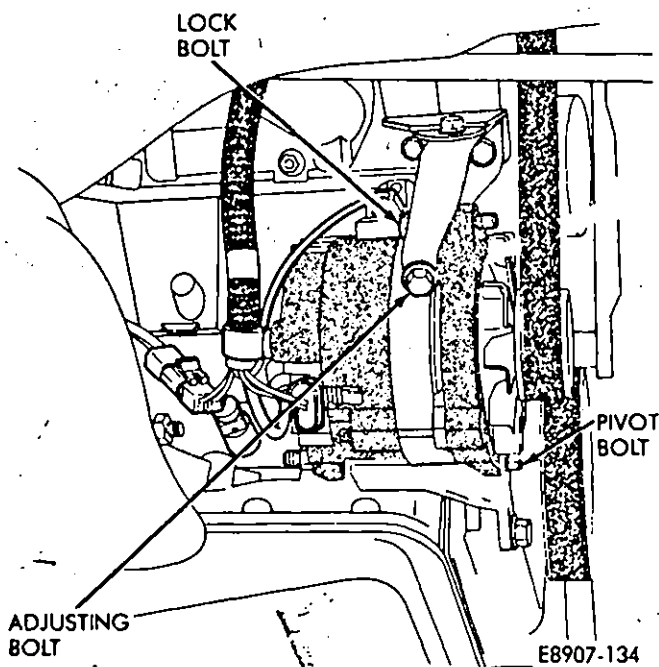
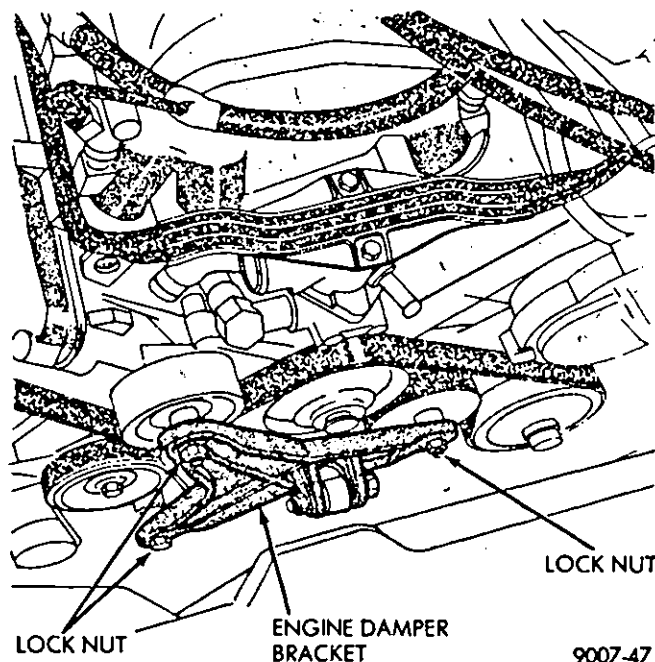
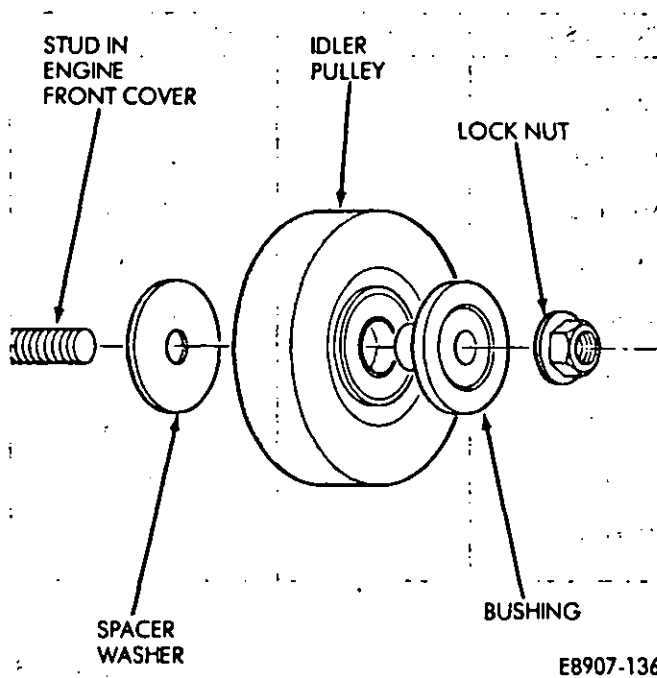

Fig. 4—Alternator Pivot Bolt, Lockbolt and Adjusting Bolt—3.0L Engine
Fig. 5—Engine Damper Mounting Bracket—3.0L Engine
Fig. 6—Idler Pulley Assembly—3.0L Engine
- (3) Remove splash shield below alternator.
- (4) Loosen alternator pivot bolt (Fig. 4).
- (5) Loosen locking bolt (Fig. 4).
- (6) Loosen adjusting bolt (Fig. 4) until the belt can be removed from the alternator pulley.
- (7) Lower the vehicle.
- (8) Remove locknuts securing engine damper mounting bracket to engine (Fig. 5). Push the bracket towards the engine.
- (9) Remove the accessory drive belt.
- (1) If any of the idler pulleys were removed, they must be installed with the small spacer washer between the pulley and the engine (Fig. 6). The inside bushing is installed between the pulley and locknut.
- (2) Install the accessory drive belt on the pulleys.
- (3) Install engine damper mounting bracket onto studs in engine front cover (Fig. 5). Tighten locknuts to 40 N·m (30 ft-lbs) torque.
- (4) Raise the vehicle.
- (5) Tighten the alternator pivot bolt to 50 N·m (37 ft-lbs) torque (Fig. 4)
Tighten adjusting bolt (Fig. 4) until the correct
(7) Tighten locking bolt (Fig. 4) to 27 N·m (20 ft-lbs) torque.
(8) Tighten alternator pivot bolt (Fig. 5) to 50 N·m (37 ft-lbs) torque.
(9) Install the splash shield.
(10) Lower the vehicle.
(11) Connect negative cable to battery.